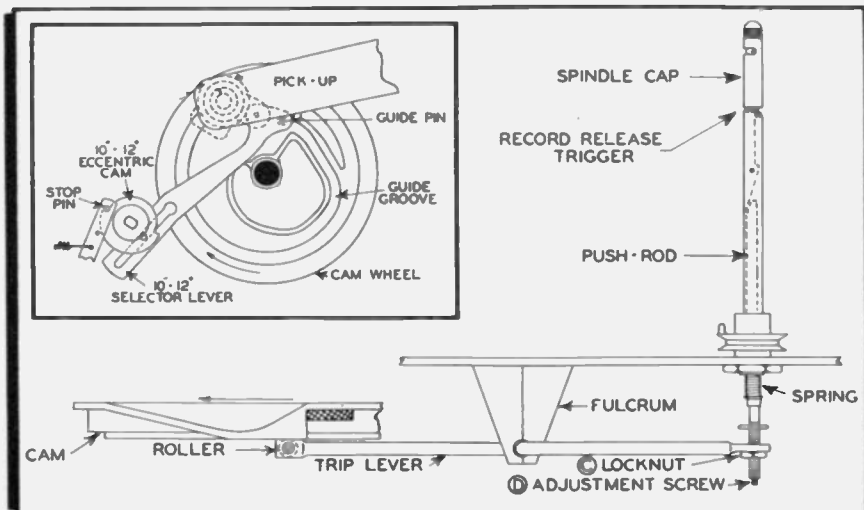

Fig. 4. (Inset) Details of cam governing movement of pickup. Fig. 5. Details of roller and trip lever.
8. A few more degrees of revolution cause the pickup guide groove on top of the cam wheel to come into play. This part of the mechanism is not visible, since the cam wheel is mounted too close to the mounting plate, but Fig. 4 shows a drawing of the upper surface of the cam wheel. As the wheel revolves with the pin in the groove, it causes the pickup to swing out beyond the edge of the record so it will be out of the way when the next record falls on the turntable.
words, it adjusts the pickup for playing automatically either 10- or 12-inch records, depending upon the position to which the record support platform is turned. The eccentric cam and the selector lever are shown in Figs. 4 and 6.